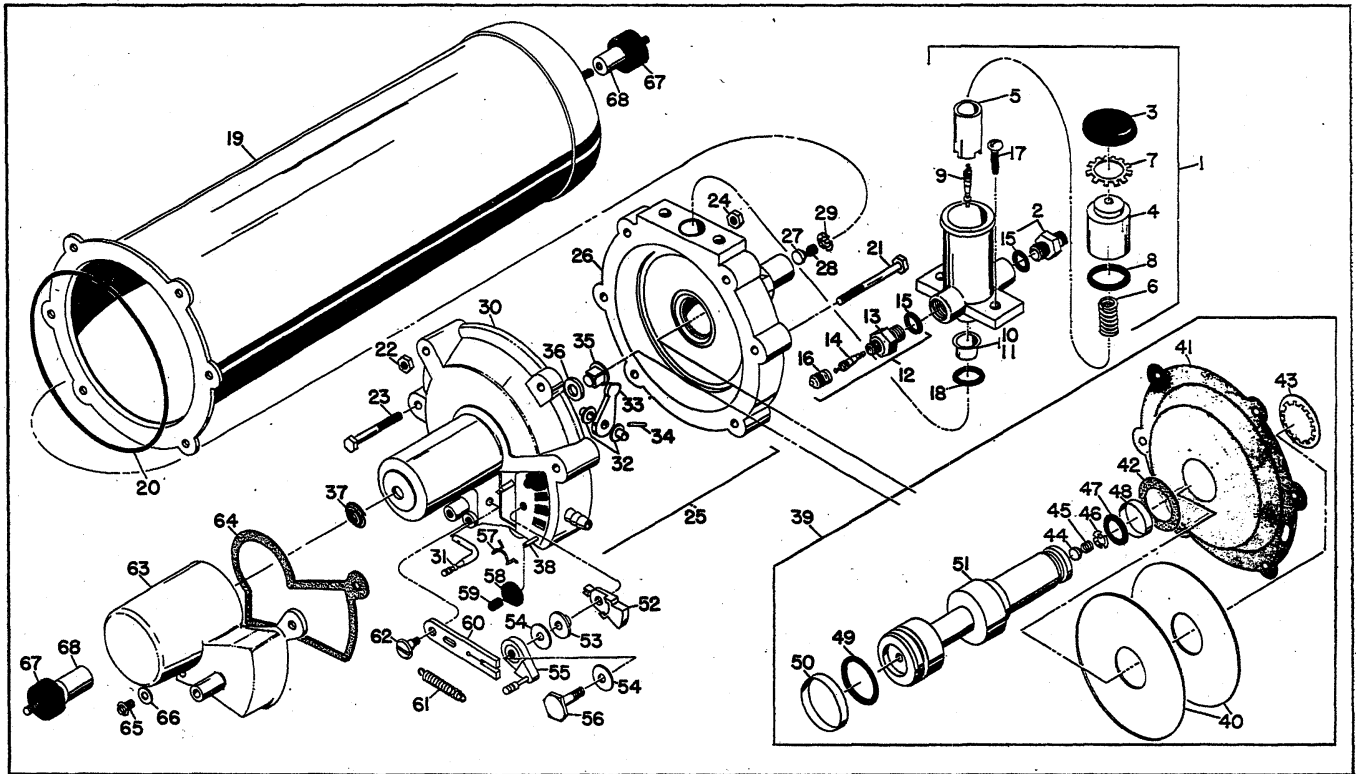

Fig. 17 - Compressor, Regulator and Reservoir - Exploded View
Disassembly Into Major Components (Fig. 17)
Disassembly, Inspection and Assembly of Major Components (Fig. 17)**Diaphragm**
4. Install new corprene washer, old plate, new diaphragm with outer lip toward second stage side, (fig. 17) and second plate. Plates should be installed so that lip on each plate faces away from diaphragm.